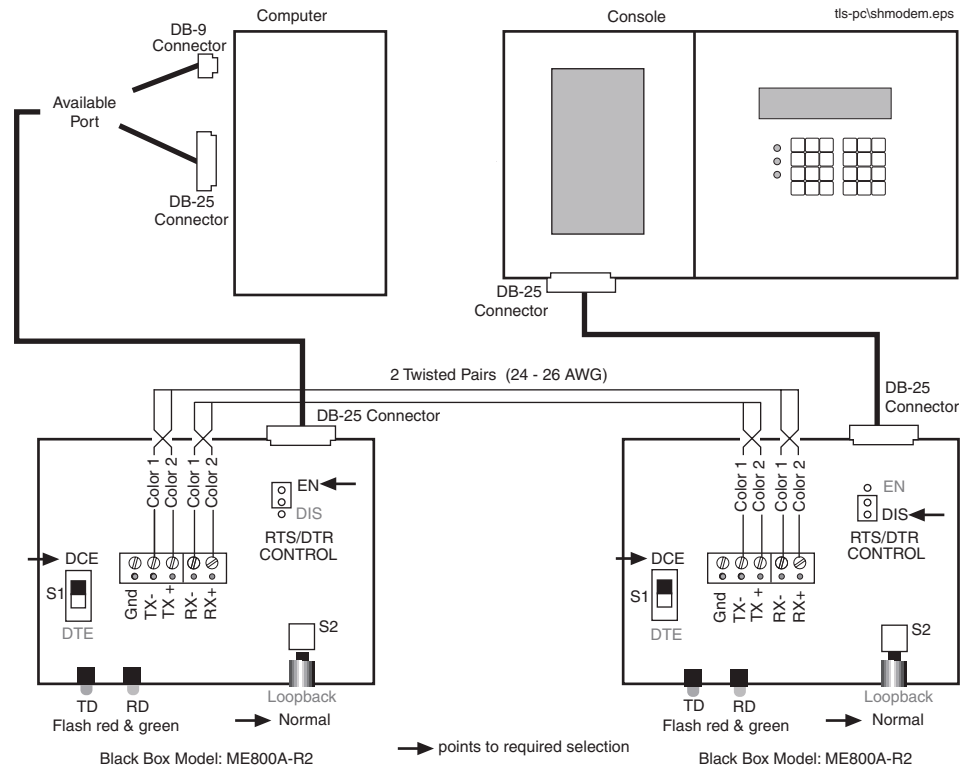

Figure 1. Connecting a TLS Console to a PC Via Short-Haul Modems
For cable runs over 50 feet, we recommend an asynchronous short-haul modem, Black Box model ME800A [see Figure 1]; or equivalent. You can contact Black Box at P.O. Box 12800, Pittsburgh, PA 15241 U.S.A.; telephone: (724) 746-5500; fax: (724) 746-0746; or at their Internet address <http://www.blackbox.com>.